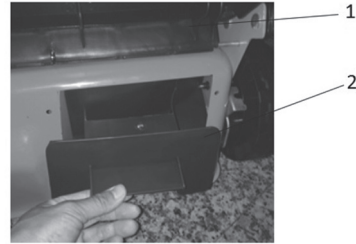

Fig. 9
1. Remove the grass catcher and hold the plastic grass catcher cover with your hand (Fig. 9 – point 1)
2. Install the mulching plug into the discharge chute (Fig. 9 – point 2) and make sure that the plug is seated firmly.